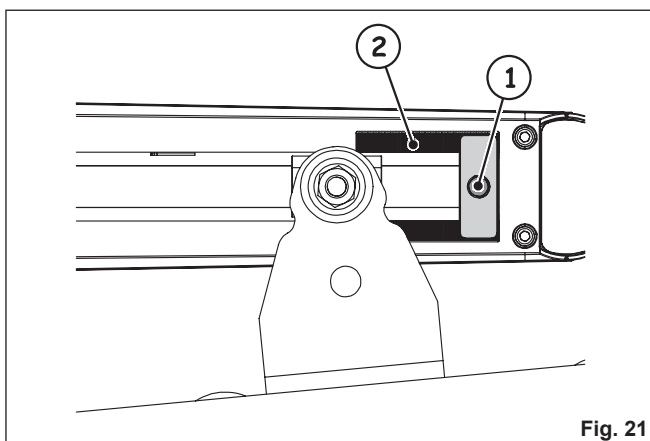

Fig. 21
3. Loosen the securing screw, Figure 21 Ref. 1. The screw does not need to be completely removed.
⚠ The mechanical stop is coupled to a toothed sector, Figure 21 Ref. 2.